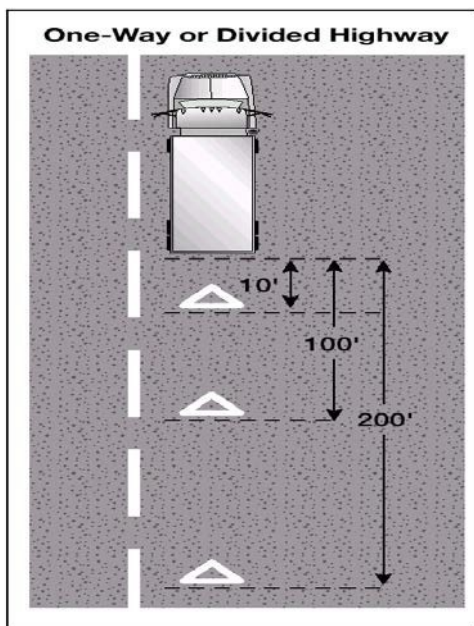

Figure 2.8
- ☐ If you must stop on or by a one-way or divided highway, place warning devices 10 feet, 100 feet, and 200 feet toward the approaching traffic. See Figure 2.8.